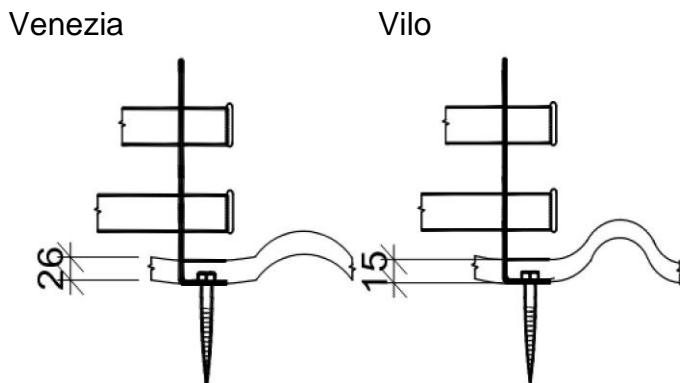

Figure 2.
- Make sure that the RP-bracket plate parts are in the position shown in Figure 2.